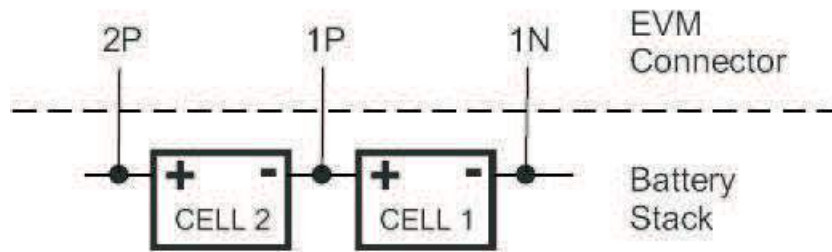

Figure 14. Connection Sequence
1. Connect the most negative terminal (– terminal of cell 1) of the serially connected, 2-cell battery stack to the 1N PIN of the TB1 connector, as shown in Figure 14. (See also Figure 9 for the TB1 location).